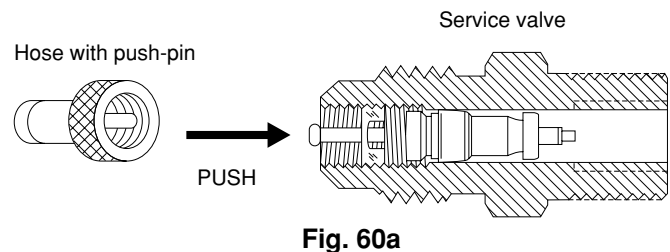

Fig. 60a
* The service port on the wide tube service valve uses a Schrader core valve to access the refrigerant system. Therefore, be sure to use a hose connector which has a push-pin inside. (Fig. 60a)